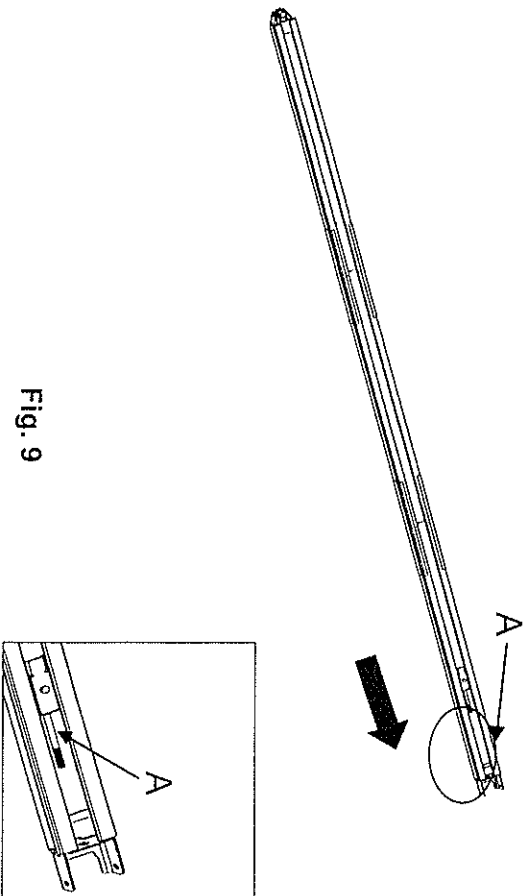

Fig. 9
4. As Fig.9,pull the screw rod"A" along with inner chain to the endof top rail ;